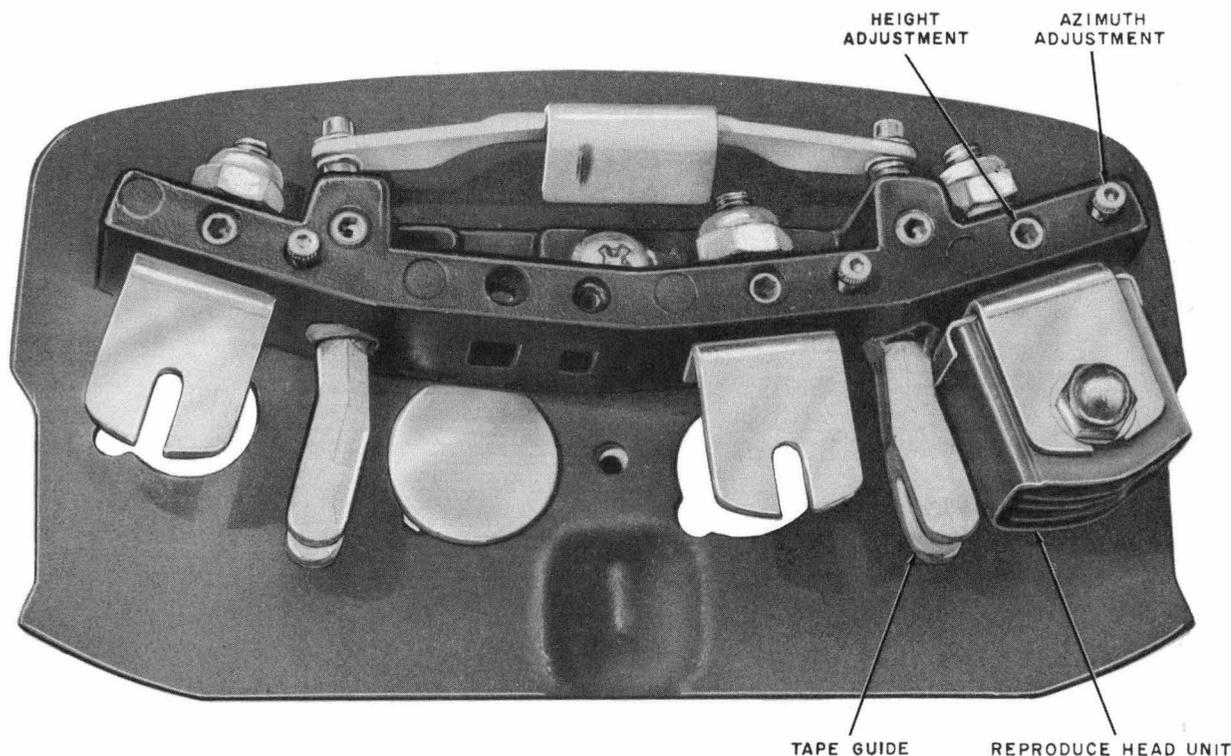

Fig. 4 — Typical Head Assembly
(c) Capstan and tape guide (Fig. 2) and tape guides (Fig. 4) should be cleaned daily to free them from tape oxide, dust, and all other foreign material.
(d) Head assembly (Fig. 4) should be cleaned at least once during each eight hours of actual operation. Clean in accordance with specific procedures as described in 3.01(d).
**2.10 Tape Guides:** The azimuth adjustment of the tape guides (Fig. 4) shall be such that the tape does not ride diagonally across opposite corners of the lips of either tape guide. The tape shall travel well centered within each guide. To check this requirement, perform the following.
(3) Visually check tape movement through both tape guides (Fig. 4) to ensure that tape guides are properly guiding tape past the head unit.